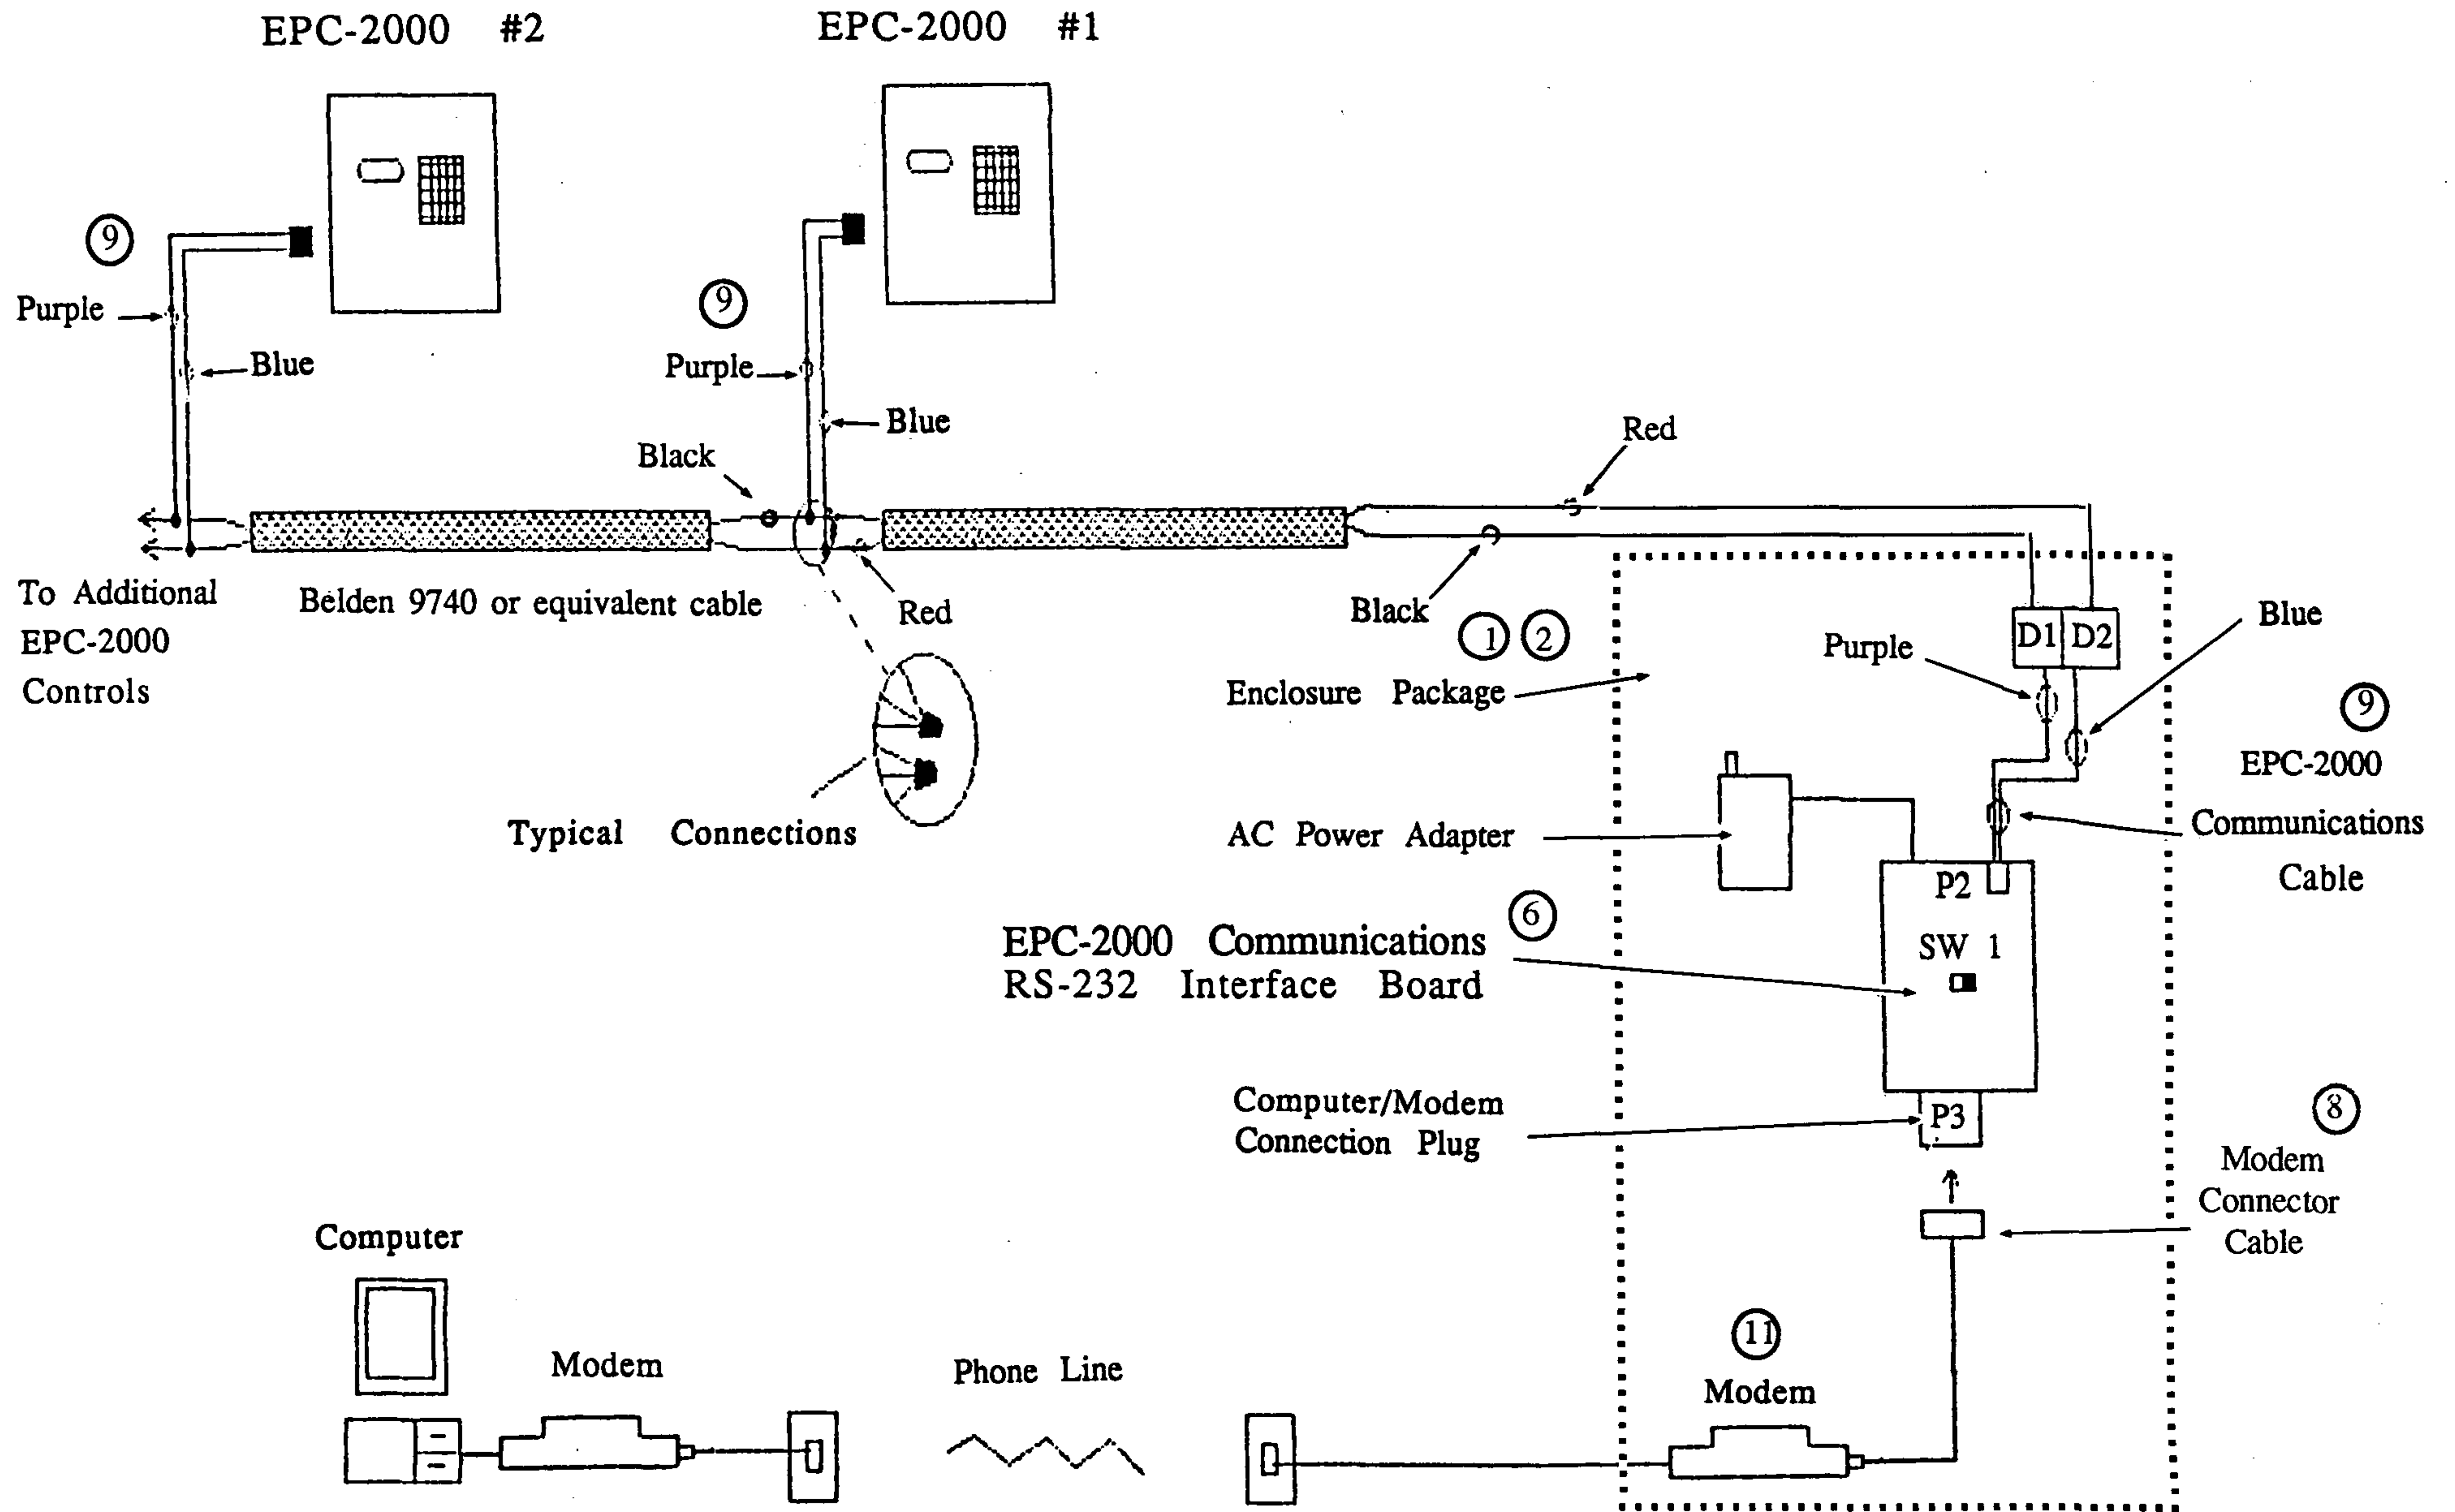

Figure 3. Field Wiring EPC-2000 Controls to RS-232 Interface Board
Each EPC-2000 refrigeration control that is to be monitored thru the communications package must be wired to the RS-232 interface board in the communications enclosure. Connection of the EPC-2000 controls and the interface board is to be accomplished using the factory supplied communications cables and the twisted pair cable supplied by the installer (see Figure 3).
Listed below are the installation steps (see Figure 3). The wiring in this section is low voltage and need not be in conduit.
3. Connect 1 EPC-2000 communications plug to the twisted pair cable as shown in Figure 3. If more than one EPC-2000 is to be connected to the interface board, then a daisy chain type of connection must be made as shown. Use crimp-on wire splices (see detail, Figure 3) to make good firm connections. Follow the wire colors indicated for correct connection.
5. Repeat steps 2, 3 and 4 until all EPC-2000s have been connected using the single run of twisted pair cable. See Figure 3.
Remote communications can only be accomplished by use of a Hayes 1200 Smartmodem or compatible installed between the RS-232 interface board and a voice grade phone line. A communications package is available (89WS) which has a factory installed modem prewired to the RS-232 interface board. A second package is available (90WS) which provides a modem mounting bracket and connection cable for the RS-232 interface board. A Hayes 1200 Smartmodem or 100 per cent compatible modem must then be field supplied and installed inside the communications enclosure. The following instructions detail the required installation steps for both available kits. Refer to Figure 3 for a diagram of a completed system.